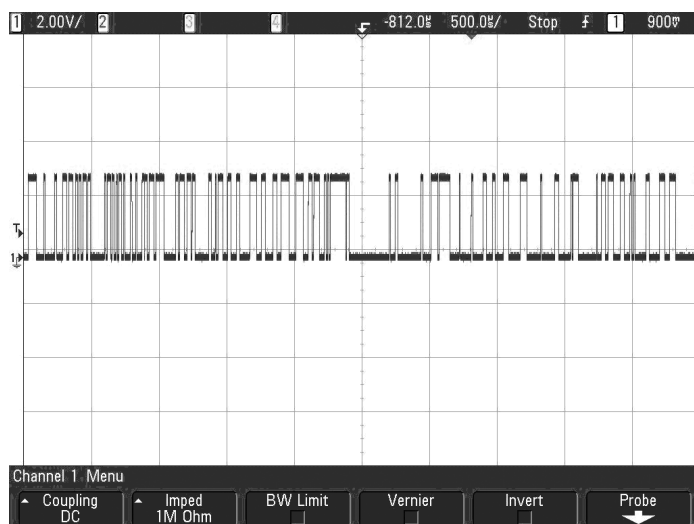
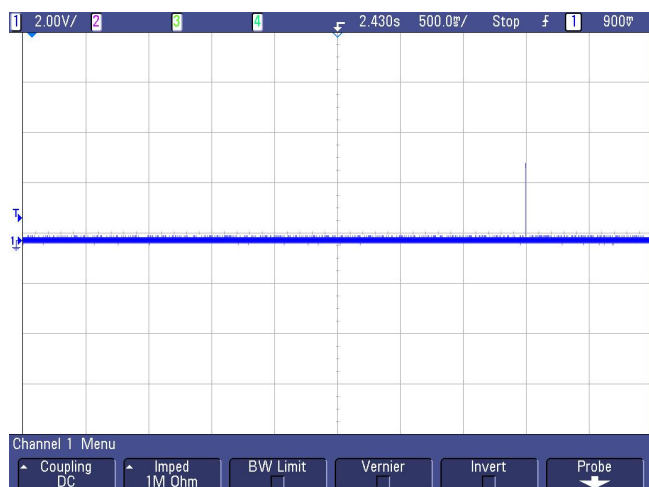

Figure 10. Data Out Pin with No Squelch (SQ = 1)
Figure 11. Data Out Pin with Squelch (SQ = 0)
JP4 (pins 5 and 6) is a jumper used to configure the digital squelch function. When pin 6 (SQ) is held high (jumpered-to-V_{DD}), there is no squelch applied to the digital circuits and pin 10 (DO, data out) has a hash signal. When pin 6 (SQ) is low, the DO pin activity is considerably reduced. It will have more or less activity than is shown in Figure 11 depending upon the outside band noise. The penalty for using squelch is a delay in getting a good signal at the DO pin, that is, it takes longer for the data to show. The delay is dependent upon many factors such as RF signal intensity, data profile, data rate, C_{TH} and C_{AGC} capacitor values and outside band noise. See Figures 10 and Figure 11.